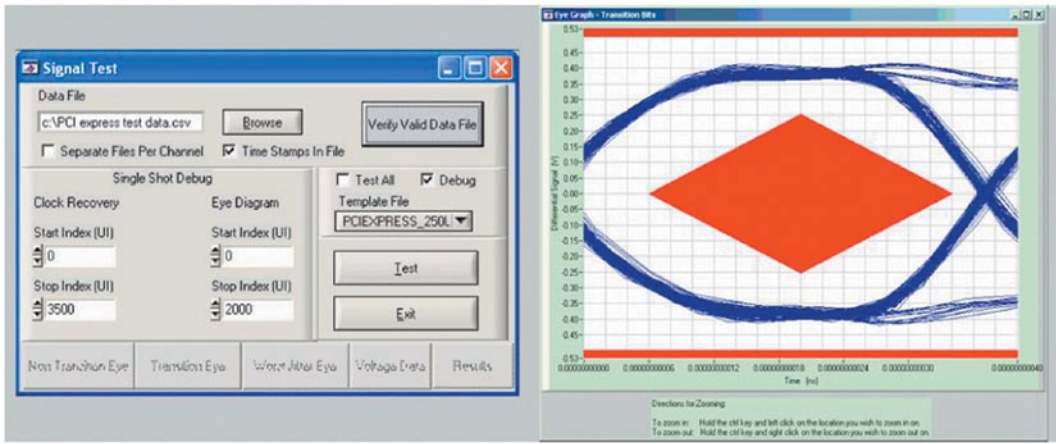

Figure 2: SIGTEST Software, which is provided by PCI-SIG, analyzes the eye pattern, jitter and bit-rate of PCIe components.
**PHY layer**—All components are tested at their PHY layer, the electrical signalling at the heart of PCIe. For motherboards, the compliance load board (CLB) is used to connect an oscilloscope to PCIe slots with different width measurements. For add-in cards, the compliance base board (CBB) provides a corresponding connection. Data captured with the oscilloscope is run through software provided by PCI-SIG to analyze the eye pattern, jitter and bit-rate of the component (**Figure 2**). These tests verify that PCIe components have the correct transmitter eye diagram and signal amplitude required for interoperability.